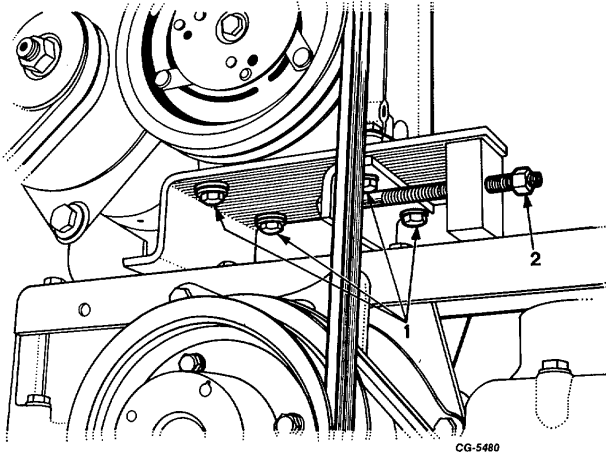

Fig. 15 Freon Compressor Adjusting and Mounting Bolts Locations
- Loosen four freon compressor mounting bolts, loosen adjusting bolt and slide freon compressor toward alternator (Figure 15).